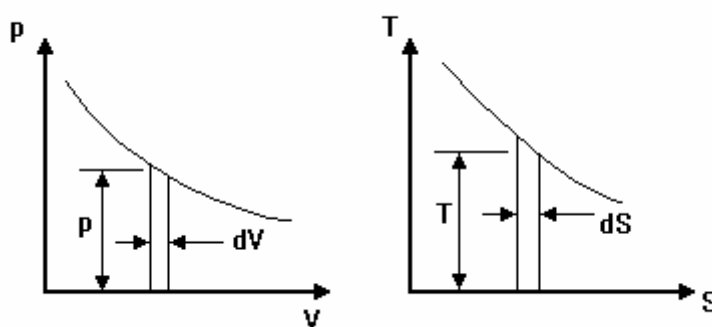

Fig.5
In thermodynamics there are two forms of energy transfer, work (W) and heat (Q). You should already be familiar with the theory of work laws in closed systems and know that the area under a pressure - volume diagram gives work transfer. By analogy there should be a property that can be plotted against temperature such that the area under the graph gives the heat transfer. This property is entropy and it is given the symbol S . This idea implies that entropy is a property that can be transported by a fluid. Consider a p - V and T - s graph for a reversible expansion (Fig. 5).